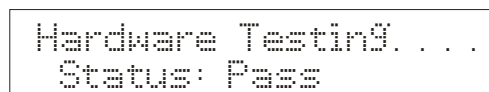

Figure 5
1. When first connected to the power supply, the meter runs a self test, the display flashes *Hardware Testing...* Status: Pass. See **Figure 5**.